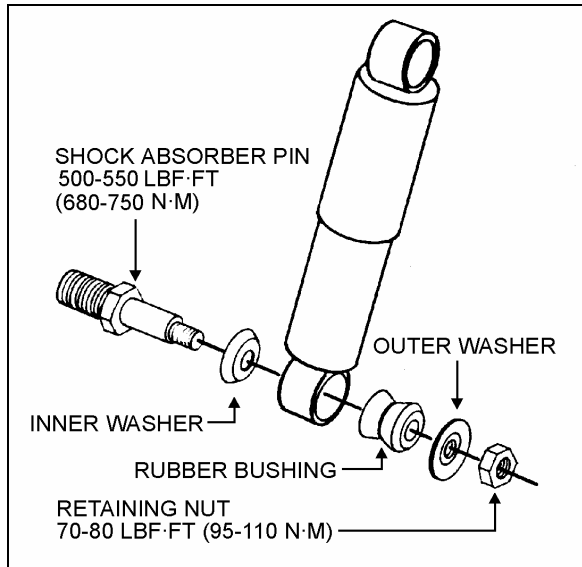

FIGURE 40: SHOCK ABSORBER
- Remove nuts and washers from shock absorbers on upper and lower mounting pins, taking care to identify the inner and outer washers to ease reinstallation. Refer to figure 40 for details.